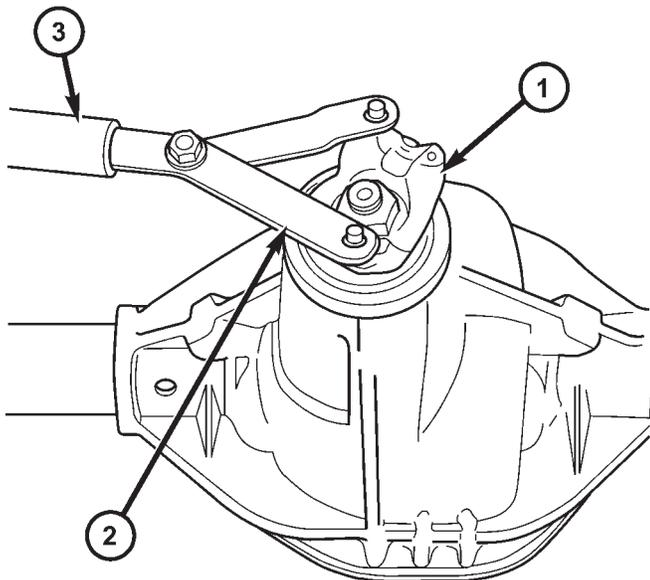

Fig. 41 YOKE HOLDER
(6) If rotating torque is low, use Spanner 6958 (Fig. 41) to hold the pinion yoke and tighten pinion shaft nut in 6.8 N·m (5 ft. lbs.) increments until proper rotating torque is achieved.